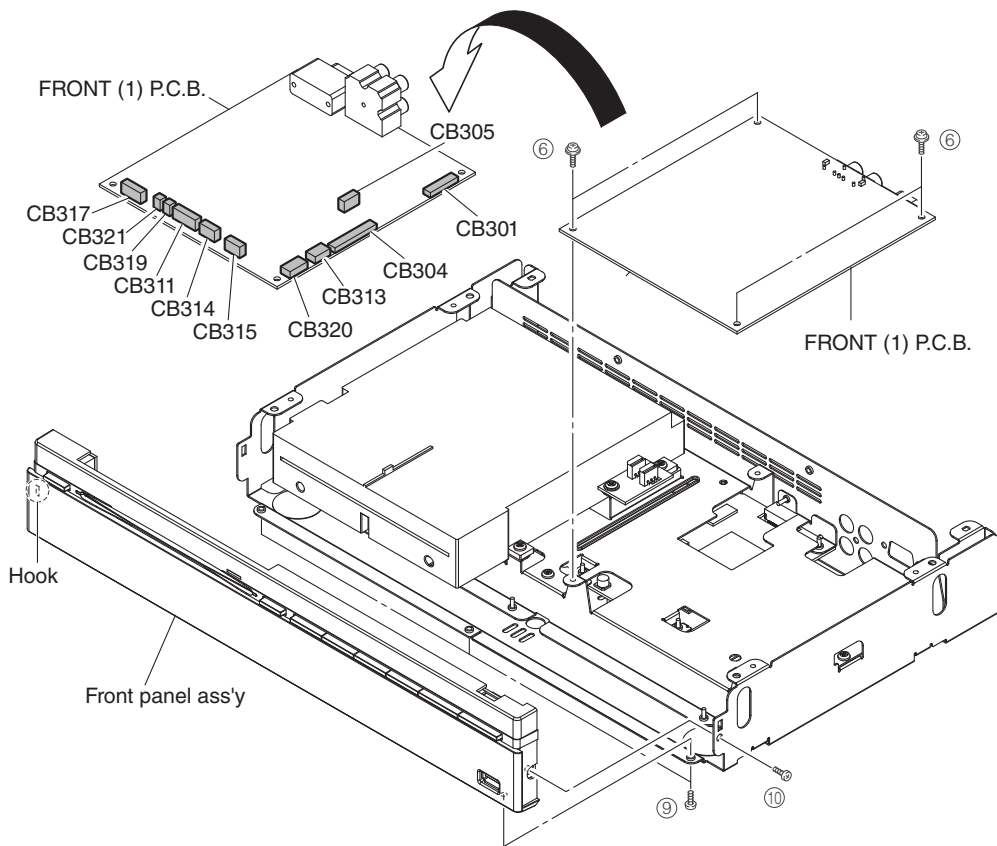

Fig. 3
3. Removal of FRONT (1) P.C.B.
- a. Remove 4 screws (⑥). (Fig. 3)
- c. Turn over the FRONT (1) P.C.B.. (Fig. 3)
- d. Remove CB301, CB304-305, CB311, CB313-315, CB317, CB319 and CB320-321. (Fig. 3)
- e. Remove the FRONT (1) P.C.B.. (Fig. 3)
- a. Remove 3 screws (⑨) and screw (⑩). (Fig. 3)
- b. Release a hook. Remove the front panel ass'y. (Fig. 3)